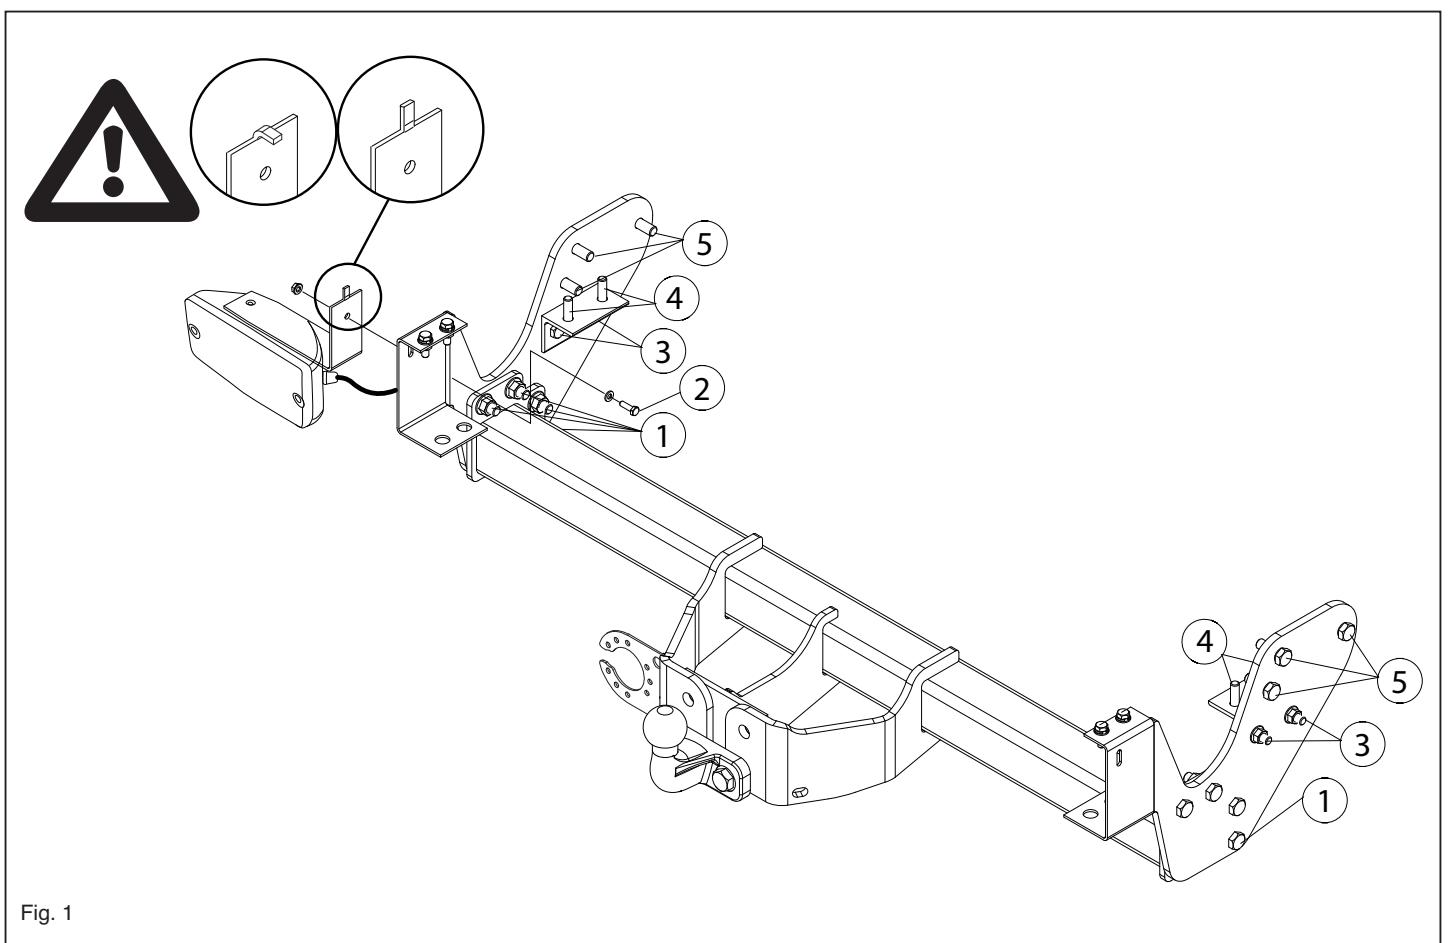

Fig. 1
9. Retighten all nuts and bolts to the torque indicated in the drawing. See figure 1.
10. Tighten all nuts and bolts to the torque indicated in the drawing. See figure 1.